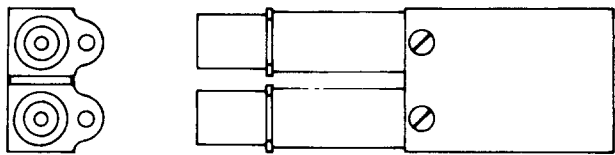

Fig. 20—489A Jack
**2.15 489A:** This coaxial-type jack (Fig. 20) has coaxially designed inner and outer contacts. The 489A jack is a twin jack that is designed for mounting in jack mountings such as the 185 and 230A. The mounting lugs on the two individual jacks may be positioned for mounting in order to extend in opposite directions, back to back, in the same direction, or side-by-side. This jack is designed to be used with the 337 and similar-type plugs, but not for cord or coaxial cable connections. The inner contacts of the two jacks are interconnected by two 55 ohm resistors in series. The outer contacts are connected together and to the midpoint between the resistors. The 489A jack is used as a 110 ohm balanced termination in the J68337A FM Terminal Test Set of the TD-2 Radio System. The test voltage for this jack is 2000 volts ac. The test is made before the resistors are connected.